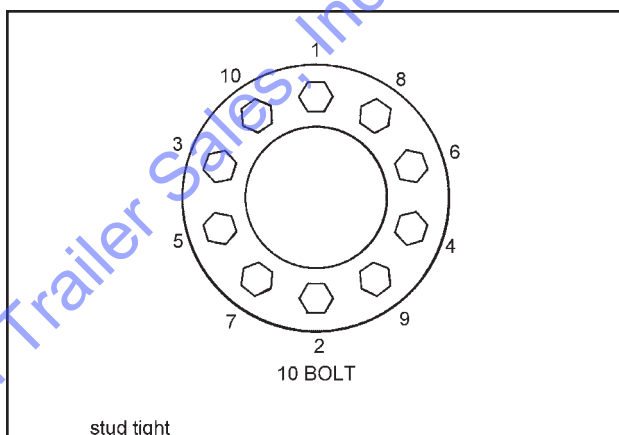

Figure 4-24 Stud Tightening Sequence
- d. Install the flange nut (pilot mount) and tighten to 50 foot-pounds using the sequence in Figure 4-24. Then tighten to full torque of 500 to 550 foot-pounds.